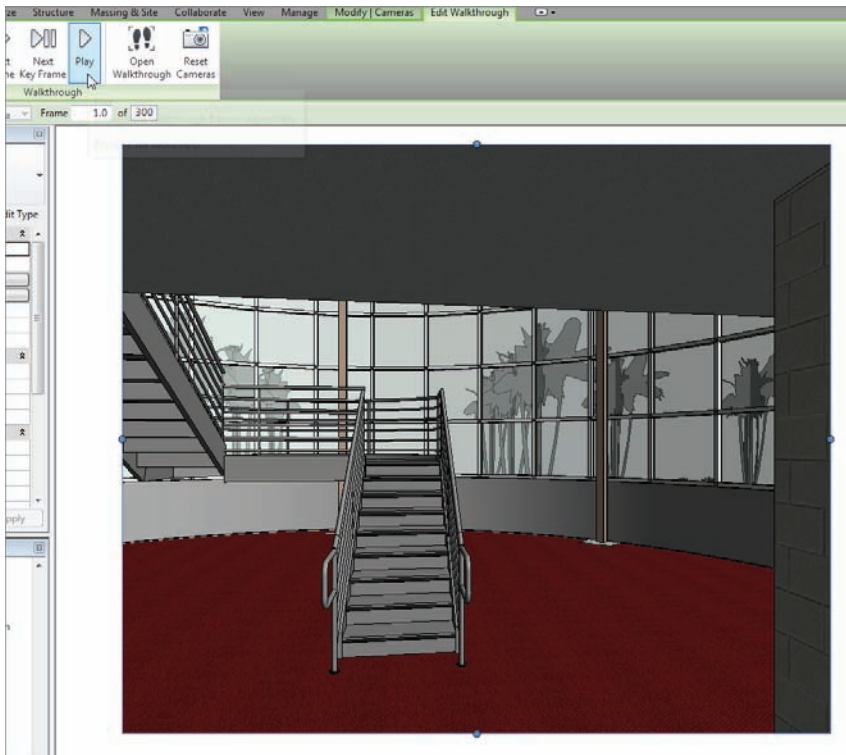

FIGURE 19.21 Clicking the Play button to start the walkthrough
9. On the Options bar, change the first frame to 1, as shown in Figure 19.21.
13. On the Modify | Cameras tab, click the Play button, as shown in Figure 19.21.